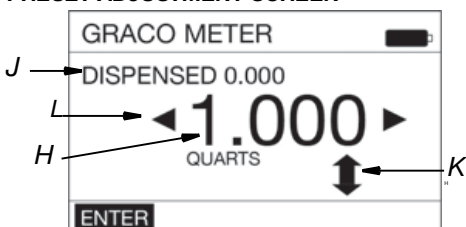

Fig. 31
2. If ACTIVATE (A) is not highlighted, use the LEFT or RIGHT ARROW button on the keypad to highlight ACTIVATE (Fig. 31); then press the center, ENTER button on the keypad to select it.
- PRESET** - Allows for increasing, decreasing or entirely changing the amount of fluid for the PRESET selection. The screen shown in FIG. 31 displays. See Function Command (C)/PRESET, page 18 for instructions on changing the PRESET).
- RESET** - Resets the Dispensed Fluid Counter (D) back to 0.000.